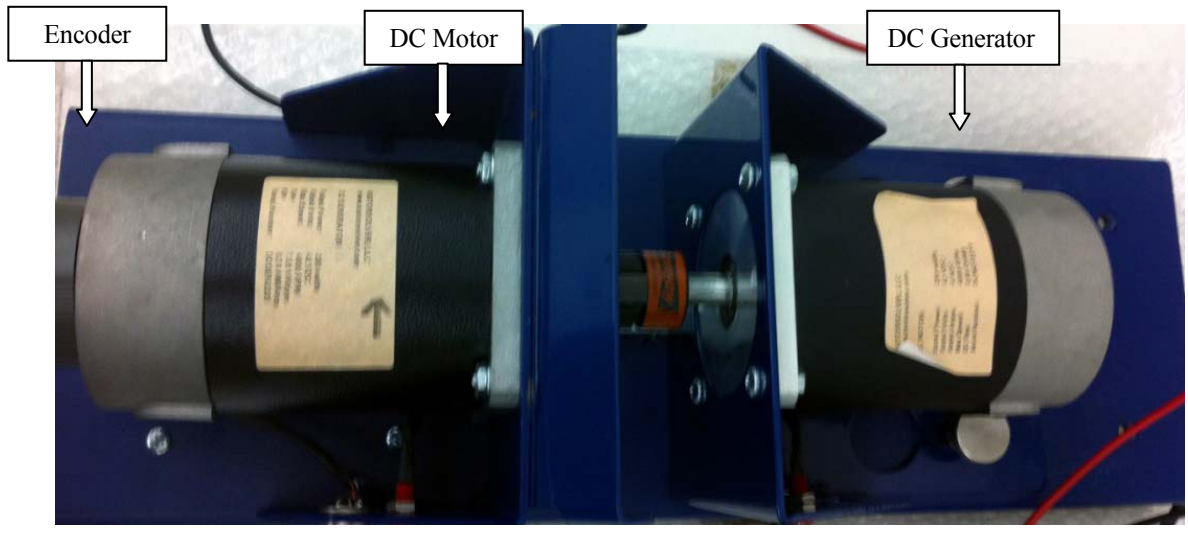

Figure 1.2: Motor Coupling System showing DC Motor, DC Generator and Encoder
- *Motor coupling system:* This system contains the motor that needs to be characterized or controlled. The system has a mechanical coupling arrangement to couple two electric machines. The motor under test (MUT) or whose speed/torque needs to be controlled, could be either a DC motor or a Three-phase induction motor or a Three-phase Permanent-Magnet AC (PMAC) motor. The system also has an encoder mounted on the machine which is used to measure the speed of the MUT. This can be used for close loop feedback speed-control of the motor. The motor demands a controlled pulse-width-modulated (PWM) voltage to run at controlled speed or torque. The PWM voltage is generated by Power Electronics Drive Board (briefed next); the voltage source thus generated is connected to the motor coupling system as shown in Fig 1.2.